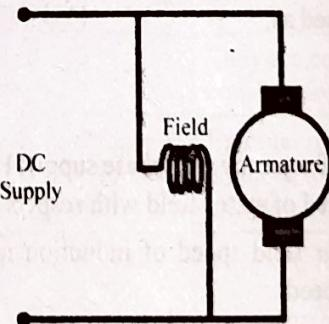

Fig. 2 : Shunt Wound DC Motor
1. Shunt Wound DC Motor : In case of a shunt wound DC motor or more specifically shunt wound self excited DC motor, the field windings are exposed to the entire terminal voltage as they are connected in parallel to the armature winding as shown in the fig. 2.